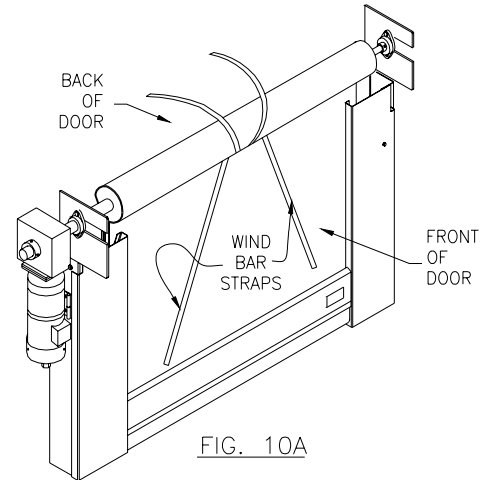

FIG. 10A
- Flip two longer inner straps over the top of the Fabric Roll (Figure 10a).